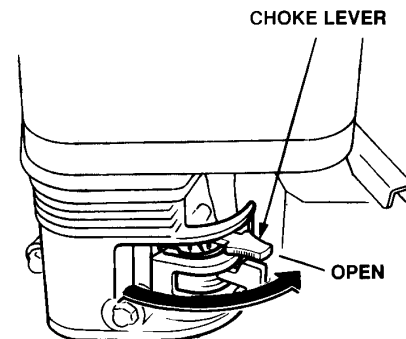

**Figure 22. Centrifugal Safety "Stop" Switch (ON)**
3. Place the *centrifugal safety "STOP" switch* (Figure 22) in the "ON" position.